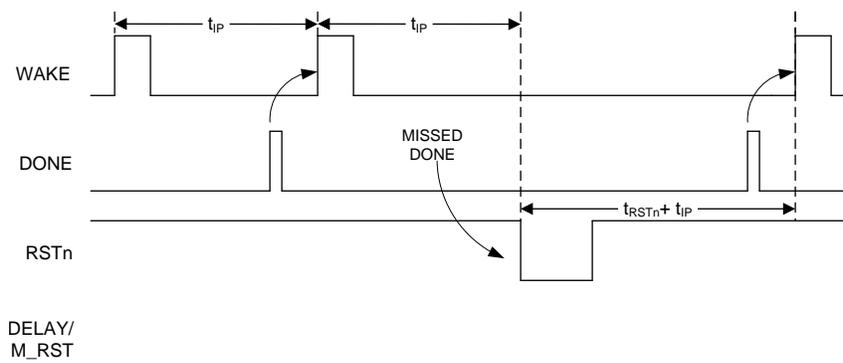

Figure 8. Watchdog
2. At the beginning of a new time interval if DONE is not received at least 20 ms before the next WAKE rising edge (see Figure 8).
During normal operating mode, the TPL5010 asserts periodic WAKE pulses in response to valid DONE pulses from the  $\mu\text{C}$ . If either a manual reset is applied (logic HIGH on DELAY/M\_RST pin), or the  $\mu\text{C}$  does not issue a DONE pulse within the required time, the TPL5010 asserts the RSTn signal to the  $\mu\text{C}$  and restarts its internal counters. See Figure 8 and Figure 10.